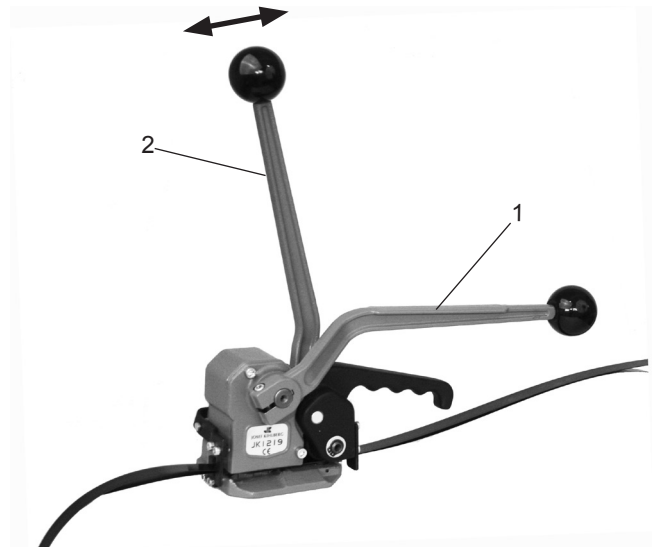

Fig. 4
- Hold the sealing lever (Fig. 4/1) in the left hand and with the right hand move the tensioning lever (4/2) backwards and forwards until the required strap tension is obtained.